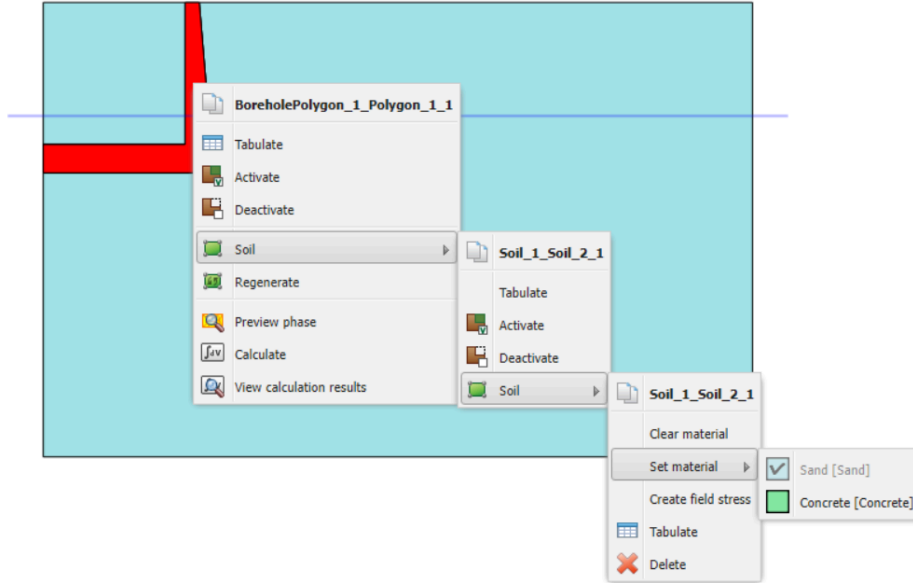

Figure 18–7: Concrete set as material for polygon
- 6 In the **Staged construction** mode, assign the **Concrete** dataset to the created polygon which represents the navigable lock as shown in Figure 18–7 \(p. 278\).